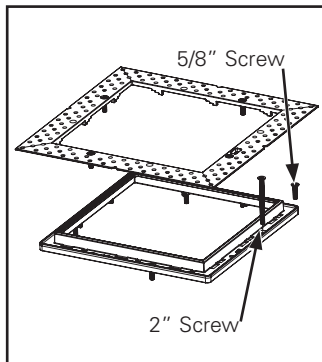

Figure 6.
1. Loosen and remove the (4) connecting screws. Remove the perforated frame from the assembly.
2. Remove the (4) 5/8" ceiling screws, and replace with the 2" mounting screws. (Figure 6.)
4. Secure the perforated frame to the mounting frame using the (4) connecting screws. Do not over tighten the mounting screws.